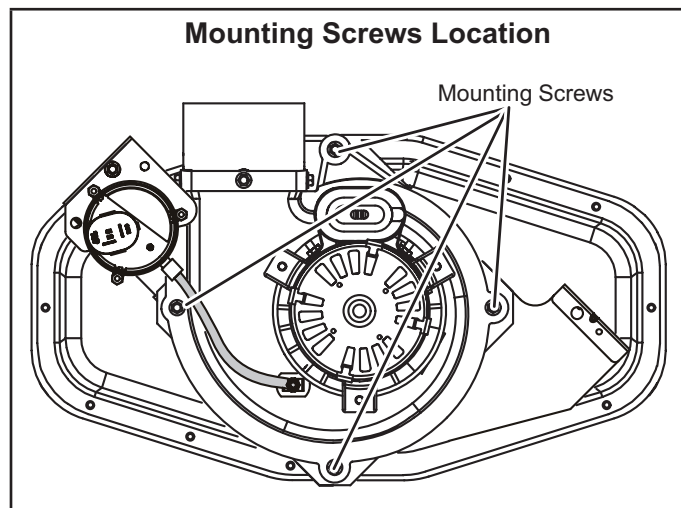

FIGURE 15
- 1 - Remove the four mounting screws which secure the combustion air inducer / pressure switch assembly to the orifice plate. See FIGURE 15. Lift and rotate the assembly 90 degrees clockwise or counter clockwise to either the 3 o'clock position or to 9 o'clock position and re-secure with four screws. Gasket should be left in place.